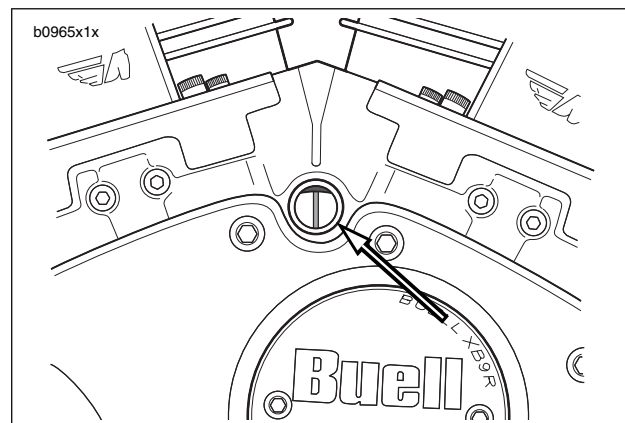

Figure 1-48. Correct Timing
10. See Figure 1-48. If the static timing is correct, the screen will switch to HIGH - 5 volts at the precise moment the timing mark exactly centers in the inspection window.
1. See Figure 1-48. Remove timing plate cover.